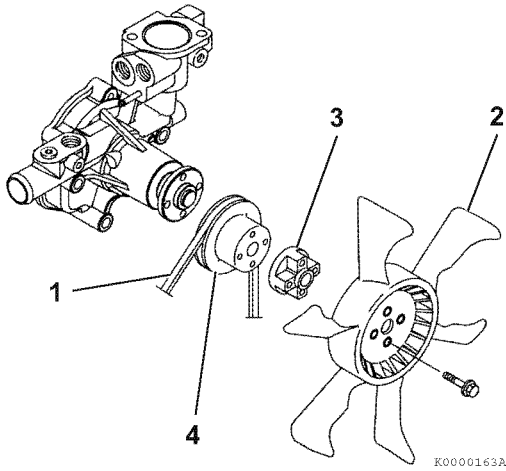

Figure 7-21
14. Reinstall the coolant pump V-pulley (Figure 7-21, (4)), spacer (Figure 7-21, (3)) (if equipped) and engine cooling fan (Figure 7-21, (2)).
15. Reinstall the cooling fan V-belt (Figure 7-21, (1)). Adjust as described in *Check and adjust cooling fan V-belt on page 5-14.*